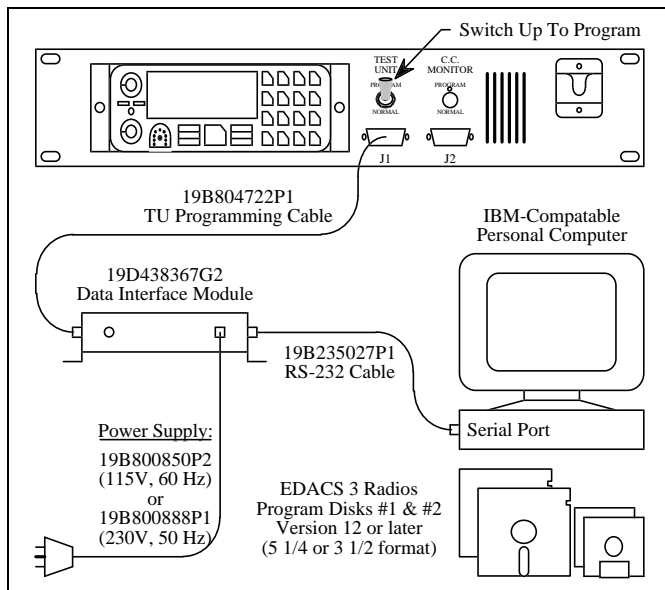

Figure 15 - Programming Setup
**Connect Programming Equipment:** Connect the radio programming equipment to the Orion TU shelf as shown in Figure 15.
- **Invoke Orion TU Programming Mode** - Turn the Orion TU radio off for one second and then back on again, using upper left knob on radio. (Ignore the DSP ERR message that is briefly displayed on the TU radio each time it is turned on.) Make sure that **PC PROG** is displayed on the Orion TU Radio. If not, check to make sure that the programming equipment is connected as shown in Figure 15, and that the switch on the front of the Orion TU shelf is in the up (programming) position. Then, start this step over.